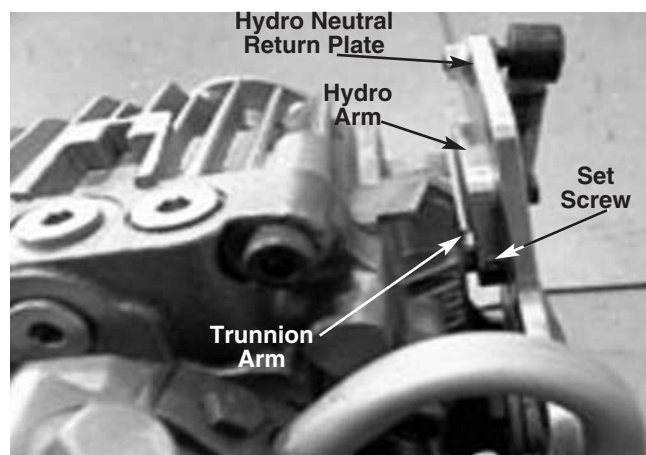

FIGURE 2.
3. Inspect the connection between the hydro arm and the trunnion arm behind the neutral return link. See figure 2.